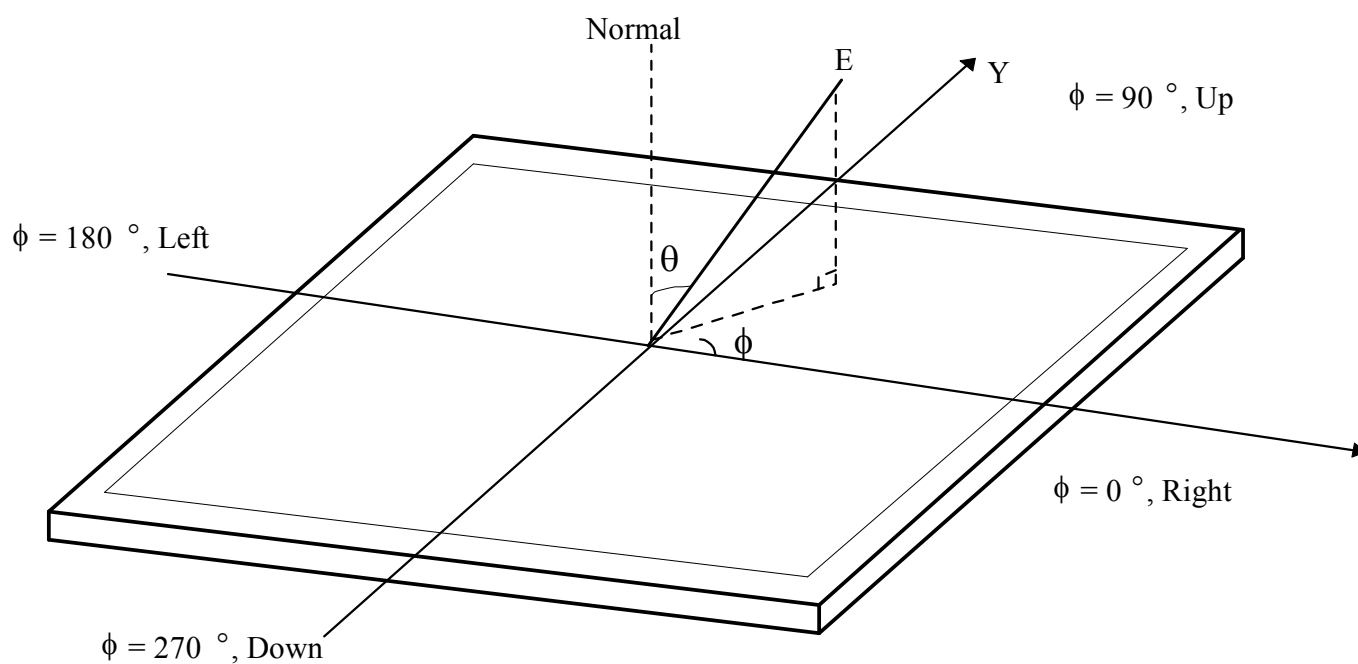

FIG. 5 Viewing angle
7. Viewing angle is the angle at which the contrast ratio is greater than 10. The angles are determined for the horizontal or x axis and the vertical or y axis with respect to the z axis which is normal to the LCD module surface. For more information, see the FIG. 5.